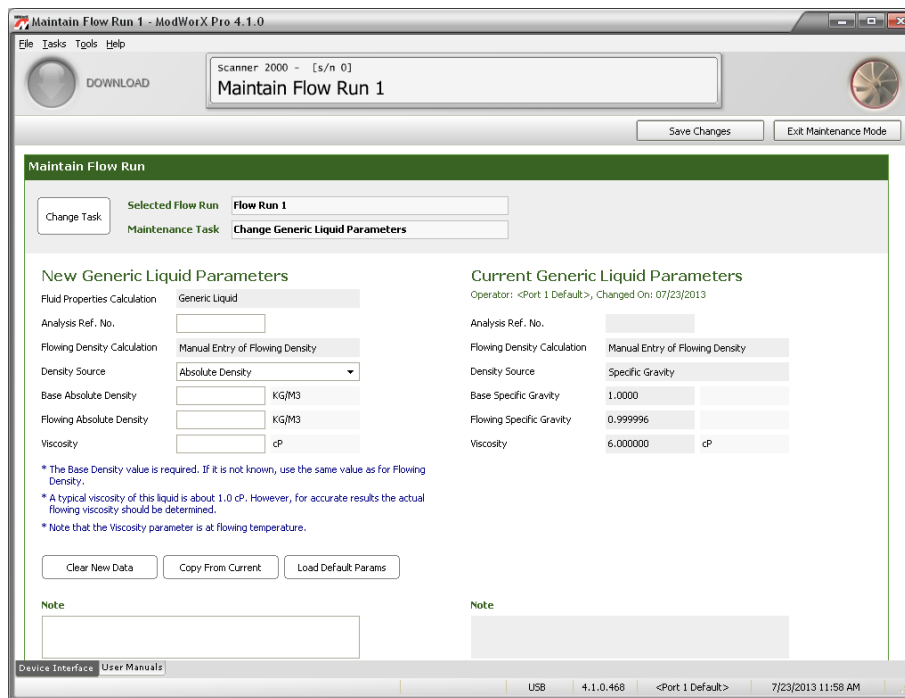

Figure 11.14
- b. Click **OK** to save the settings and return to the Maintain Flow Run screen (Figure 11.14).